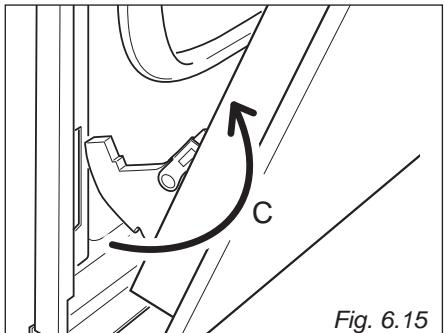

Fig. 6.15
- Withdraw the hinge hooks from their location following arrow "C" (fig. 6.15).